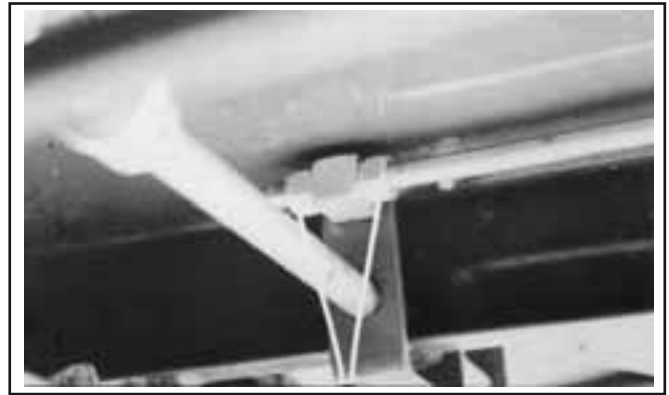

Fig. 24
1. Loosen locknuts (A) on control rod. *Fig. 24*